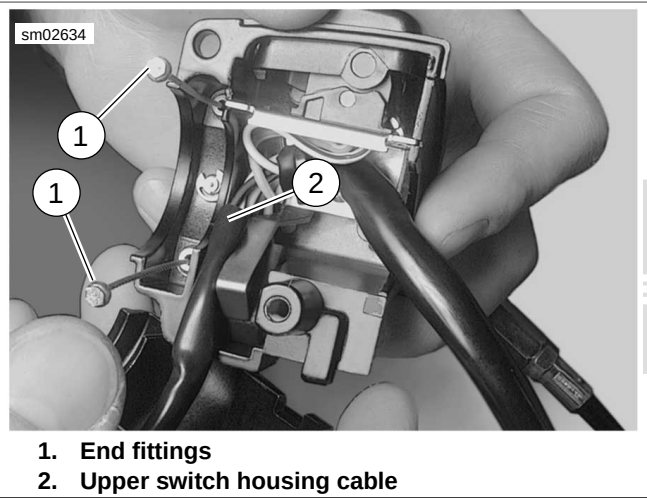

Figure 6-148. Route Cable to Upper Switch Housing
2. See Figure 6-148. Route the cable (2) to the upper switch housing as shown.